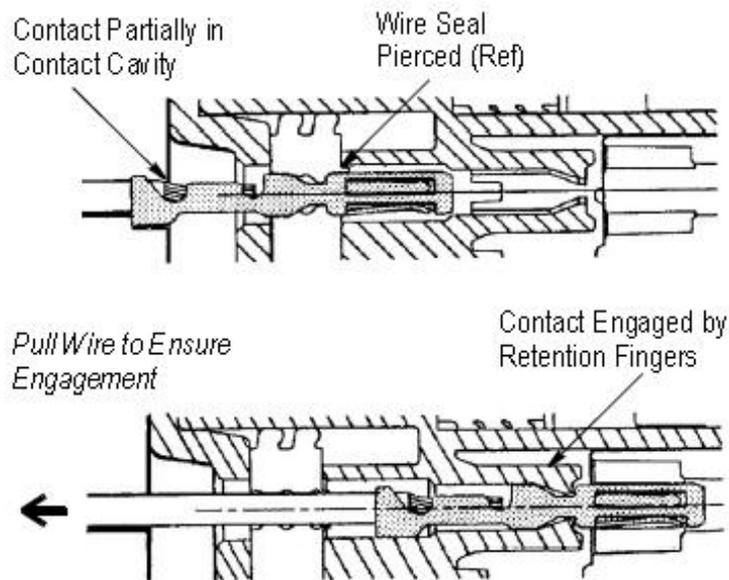

Figure 3
3. From the wire size of the plug assembly, align the contact with the applicable contact cavity, then insert the contact until there is an audible or tactile click. Refer to Figure 3. DO NOT force the contact.